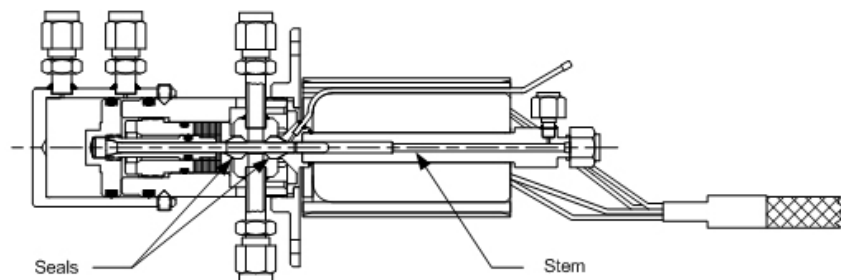

Fig. 8.9. Liquid Sample Valve
**8.3.5 Liquid sample valve (see Figure 8.9)**